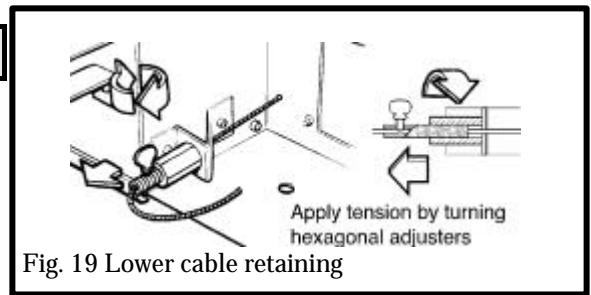

Fig. 19 Lower cable retaining
7.2.7 Fit a cable retainer over the bottom end of each cable (see figure 19).
7.2.8 Pull each cable taut. Push the cable retainers hard up against the “V” brackets. Tighten the screws in the retainers so that they clamp the cables in position. Apply tension to the cables by turning the hexagonal adjusters by hand (see figure 19).